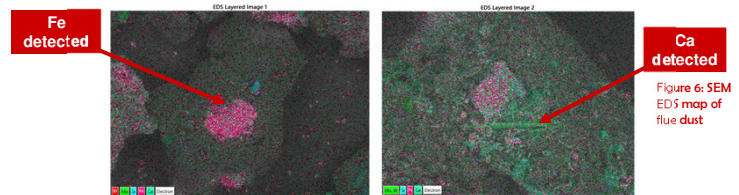

Figure 6: SEM EDS map of flue dust
- Used to detect alternative constituents in the flue dust as per figure 6